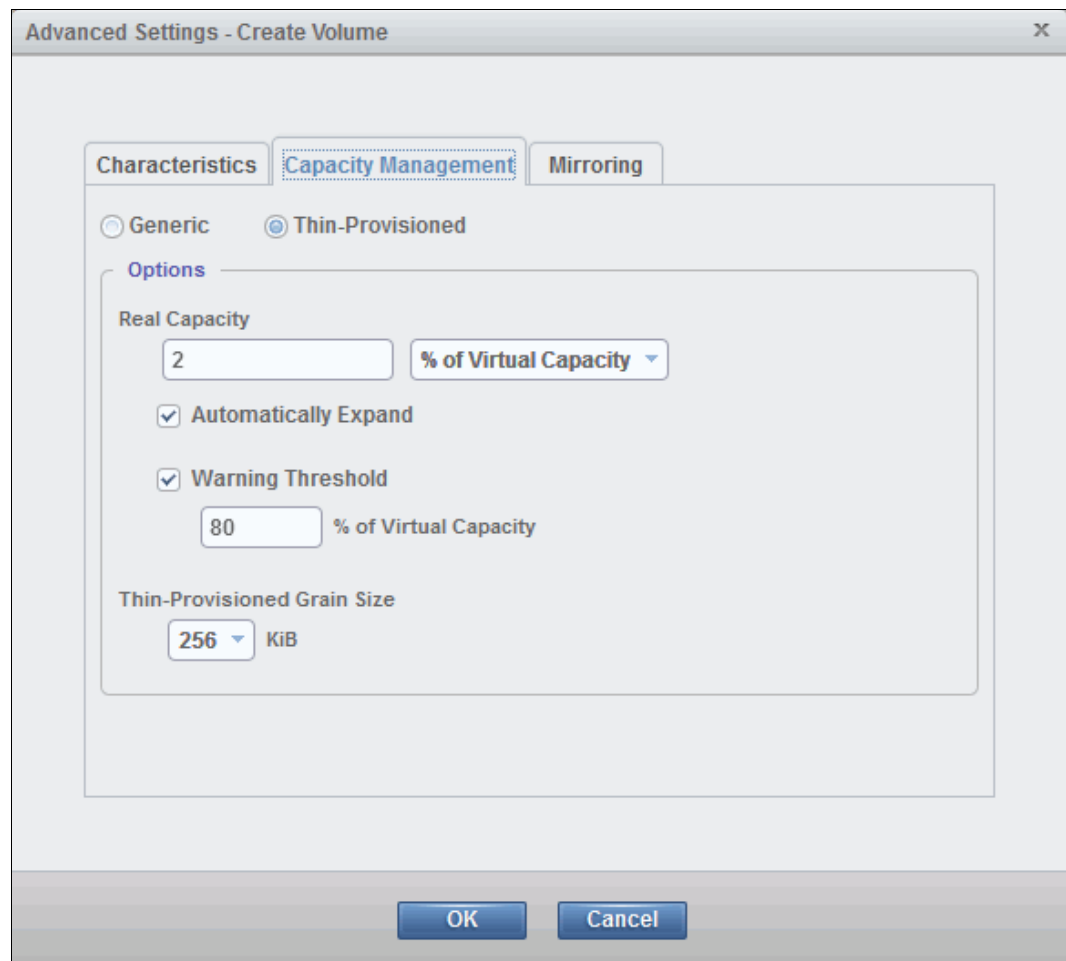

Figure 5-9 Advanced Capacity Management options for Thin-Provisioned volumes
4. Click **Advanced** to view more options. The **Characteristics** tab is the same as for generic volumes. However, there are more options under **Capacity Management**, as shown in Figure 5-9.